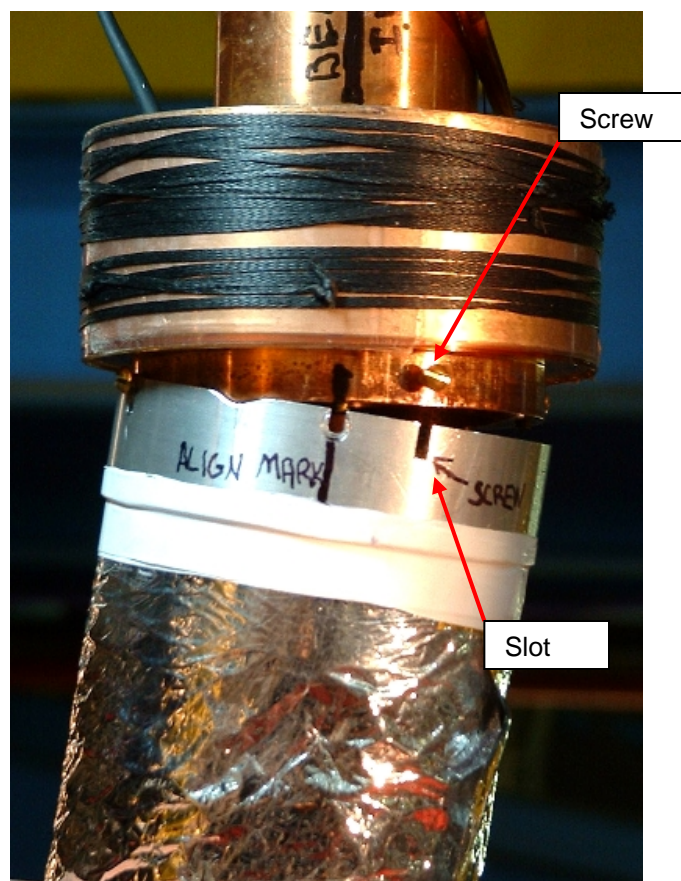

Figure 7: Align the screws and slots
3. Locate the beam in markings on the cold head flange and alignment Align the screw slots in shield with brass screws on the mounting flange. See Figure 7.